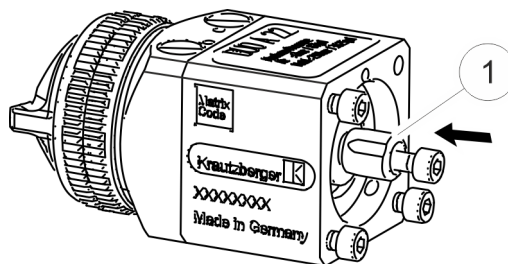

Fig. 25: Installing the material needle
2. ➡ Push the material needle (/2) with the control piston ( Fig. 25/1) into the main element.